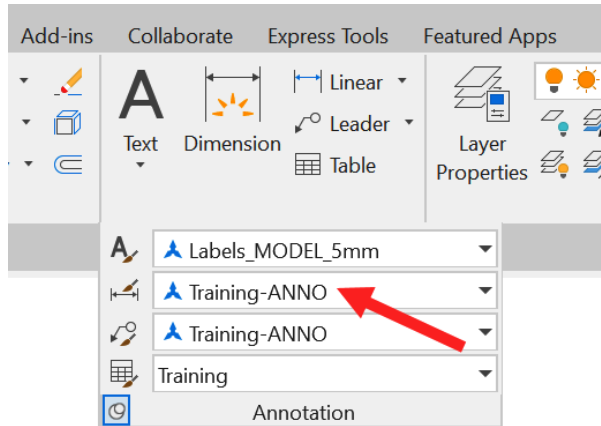

Figure 8.23: The Annotation panel flyout menu with the dimension style arrowed
13. You will also need to ensure you are using the correct annotative dimension style. Click on the flyout on the **Annotation** panel title bar and pin it open if you wish (like in *step 2*). Make sure you are using the **Training-ANNO** dimension style. It has the blue annotative symbol next to it, as shown in Figure 8.23.